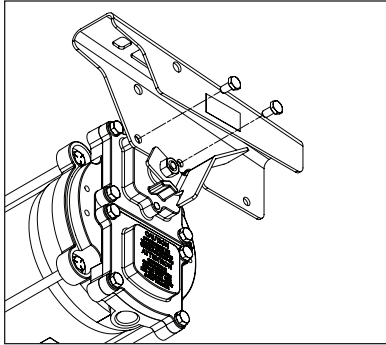

Figure 1
1. Remove the two (2) 1/4"-20 x 1/2" bolts from the switch coverplate.
3. Insert the two (2) 1/4"-20 x 1/2" bolts through the nozzle cover and thread into the switch coverplate. Torque bolts to 45-60 in/lb (Figure 1).